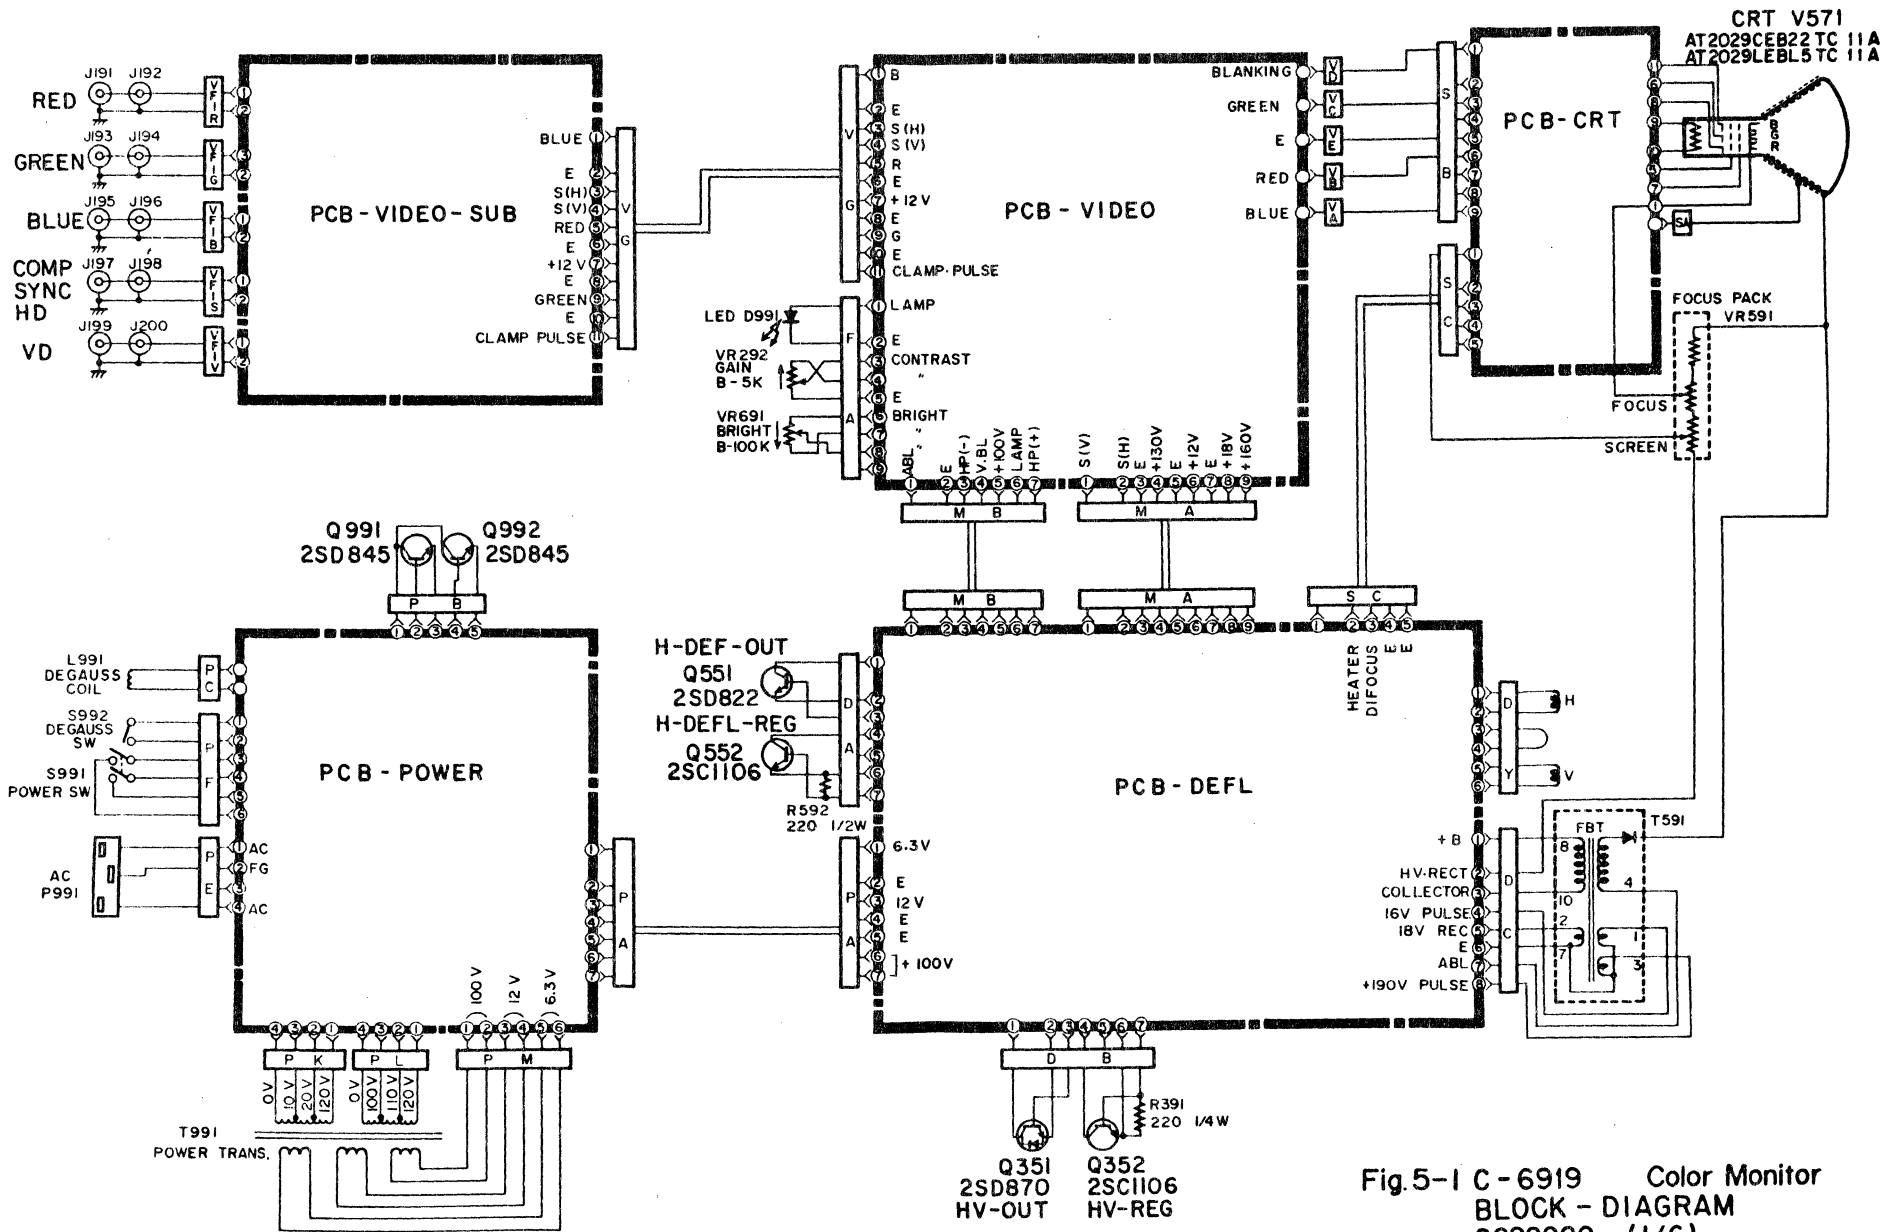

Fig.5-1 C-6919 Color Monitor
- Fig.5-1 Block Diagram, Model C-6919